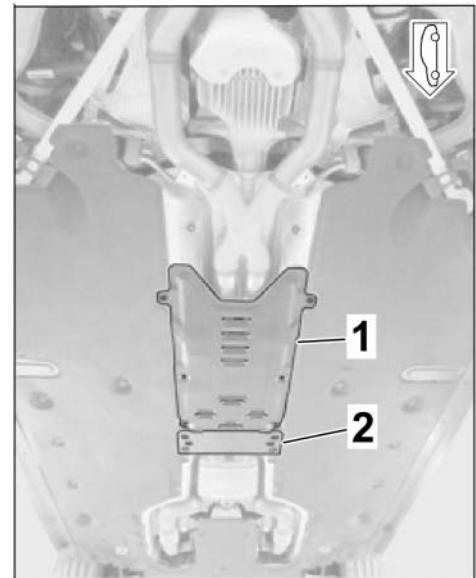

Figure 21
- 3.1.1 Remove tunnel cover on –center–underbody (⇒ *Figure 21 -1-*) and detach center underbody cover at the left/right side. ⇒ *Workshop Manual '519319 Removing and installing cover for centre underbody'*
- 3.1.2 Remove tunnel strut (10 x hexagon-head bolts, M10 x 45 ⇒ *Figure 21 -2-*). ⇒ *Workshop Manual '260119 Removing and installing exhaust system'*